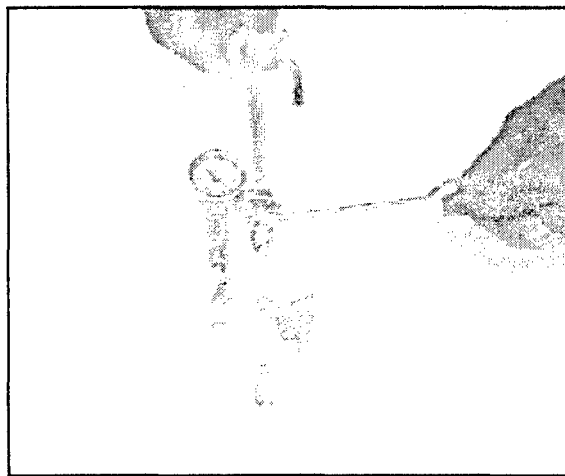

Figure 6-4.4 Removing sample inlet extension
- 5 Remove the sample inlet extension of the restrictor using a 9/16" wrench. Use a 1/2" wrench to hold the swagelok nut of the critical orifice restrictor in place as shown in Figure 6-4.4